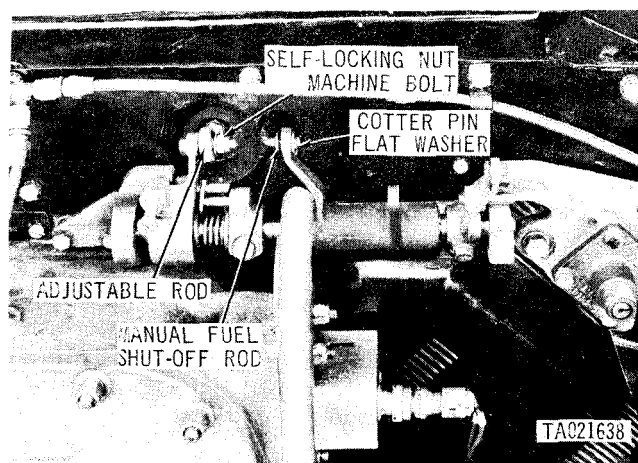
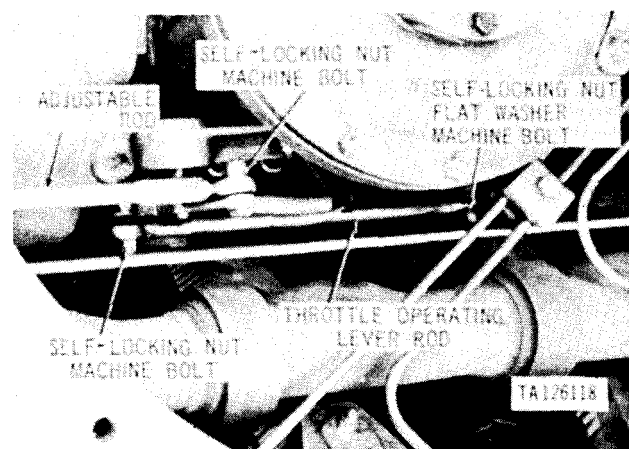
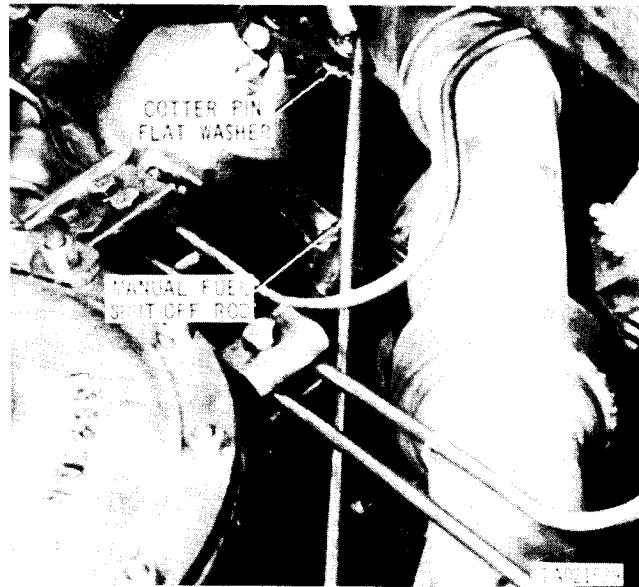

Figure 2-115. Disconnecting or connecting manual fuel shut-off rod and adjustable throttle rod.
Figure 2-116. Removing or installing adjustable rod and throttle operating lever rod.
Figure 2-117. Removing or installing manual fuel shut-off rod.
(1) Remove cooling fan vanes and cooling fans. Refer to paragraph 2-21a.
(2) Remove cotter pin and flat washer (fig. 2-115) and disconnect manual fuel shut-off rod assembly. Discard cotter pin. Remove self-locking nut, and machine bolt, and disconnect adjustable rod.
(3) Remove self-locking nut and machine bolt (fig. 2-116) and remove adjustable throttle rod. Remove two self-locking nuts, machine bolts and one flat washer and remove throttle operating lever rod.
(4) Remove cotter pin and flat washer (fig. 2-117) and remove manual fuel shut-off rod. Discard cotter pin.
(1) Install throttle operating lever rod (fig. 2-116) and secure to fuel injection pump lever with machine bolt, flat washer and self-locking nut. Secure rod to intermediate lever with machine bolt and self-locking nut. Install adjustable rod and secure with self-locking nut and machine bolt. Install manual fuel shut-off rod assembly (fig. 2-117) and secure with flat washer and new cotter pin. Install adjustable rod (fig. 2-115) and secure with self-locking nut and machine bolt. Install manual fuel shut-off rod and secure with flat washer and new cotter pin.